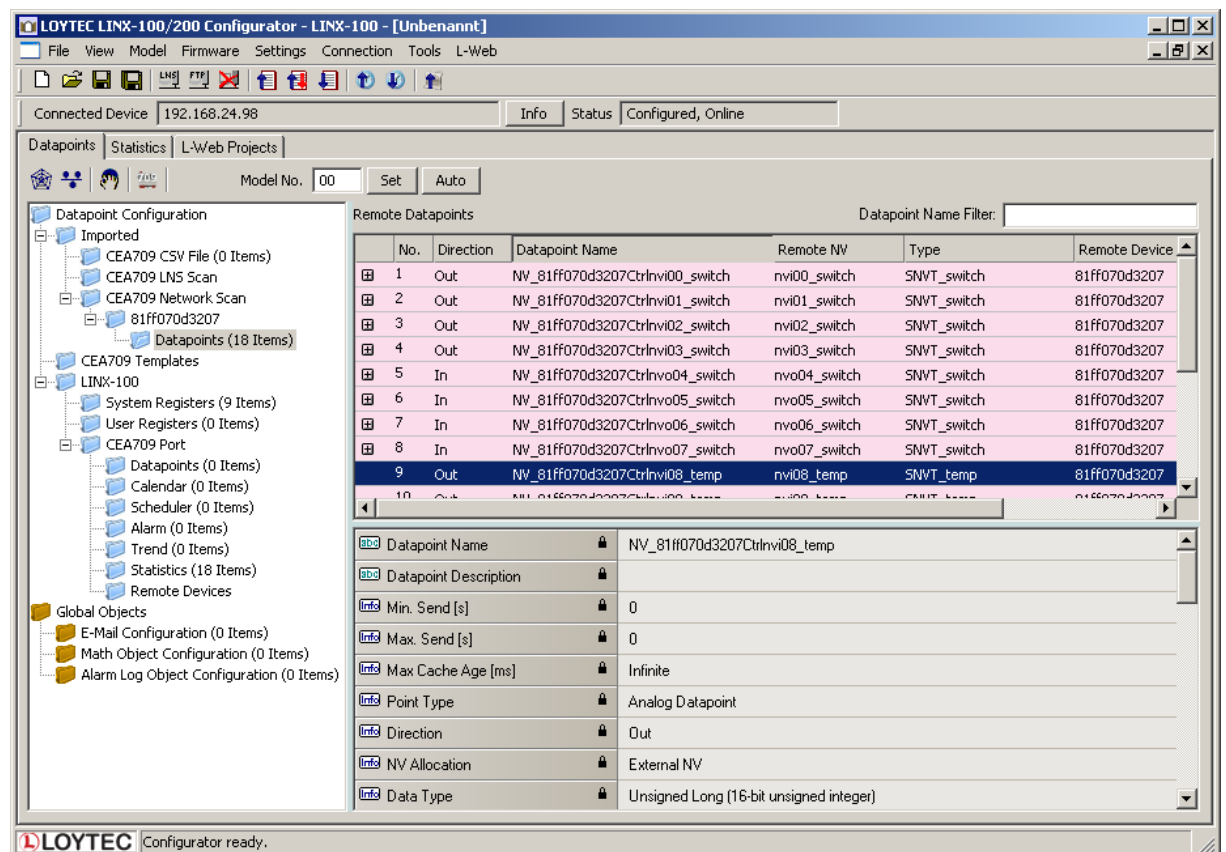

Figure 100: CEA-709 network scan results.
9. Then click the button **Scan**. This scans the NVs on the selected device and adds them to the CEA709/852 Network Scan folder as a separate sub-folder for the device as shown in Figure 100.